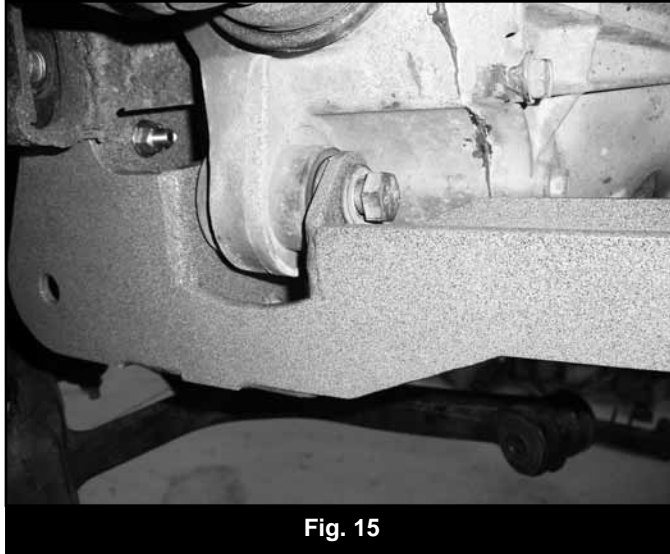

Fig. 15
33. Using a hydraulic jack, lift the differential housing assembly into the new rear crossmember (Fig 15). Attach the housing to the rear crossmember using a 9/16" x 4" bolt, nut, and washers, run the bolt from pass to driver's side. Attach the housing to the passenger's side bracket using 9/16" x 1 3/4" bolts, nuts, and washers from bolt pack #567. Do not tighten hardware at this time.